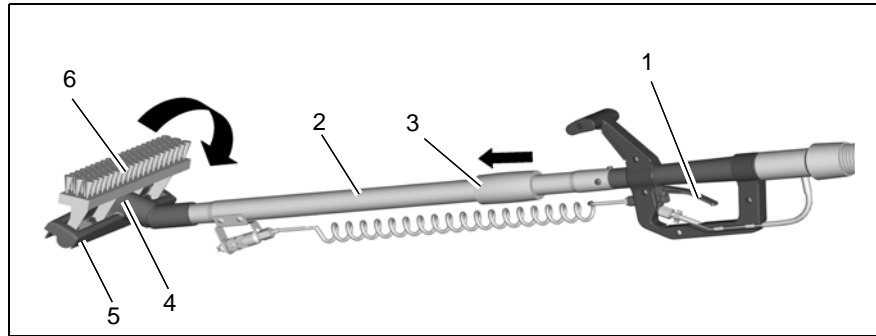

Fig.11
### Solution trigger (Fig. 11/1)
### Telescoping wand (Fig. 11/2)
### Wand extender (Fig. 11/3)
### Flip-flop tool (Fig. 11/4)
can be changed from scrub brush (Fig. 11/6) to vacuum squeegee (Fig. 11/5) by simply rotating the end.
- Off aisle wand - including telescoping wand, squeegee/scrub brush, and solution spray system . (see Fig.11